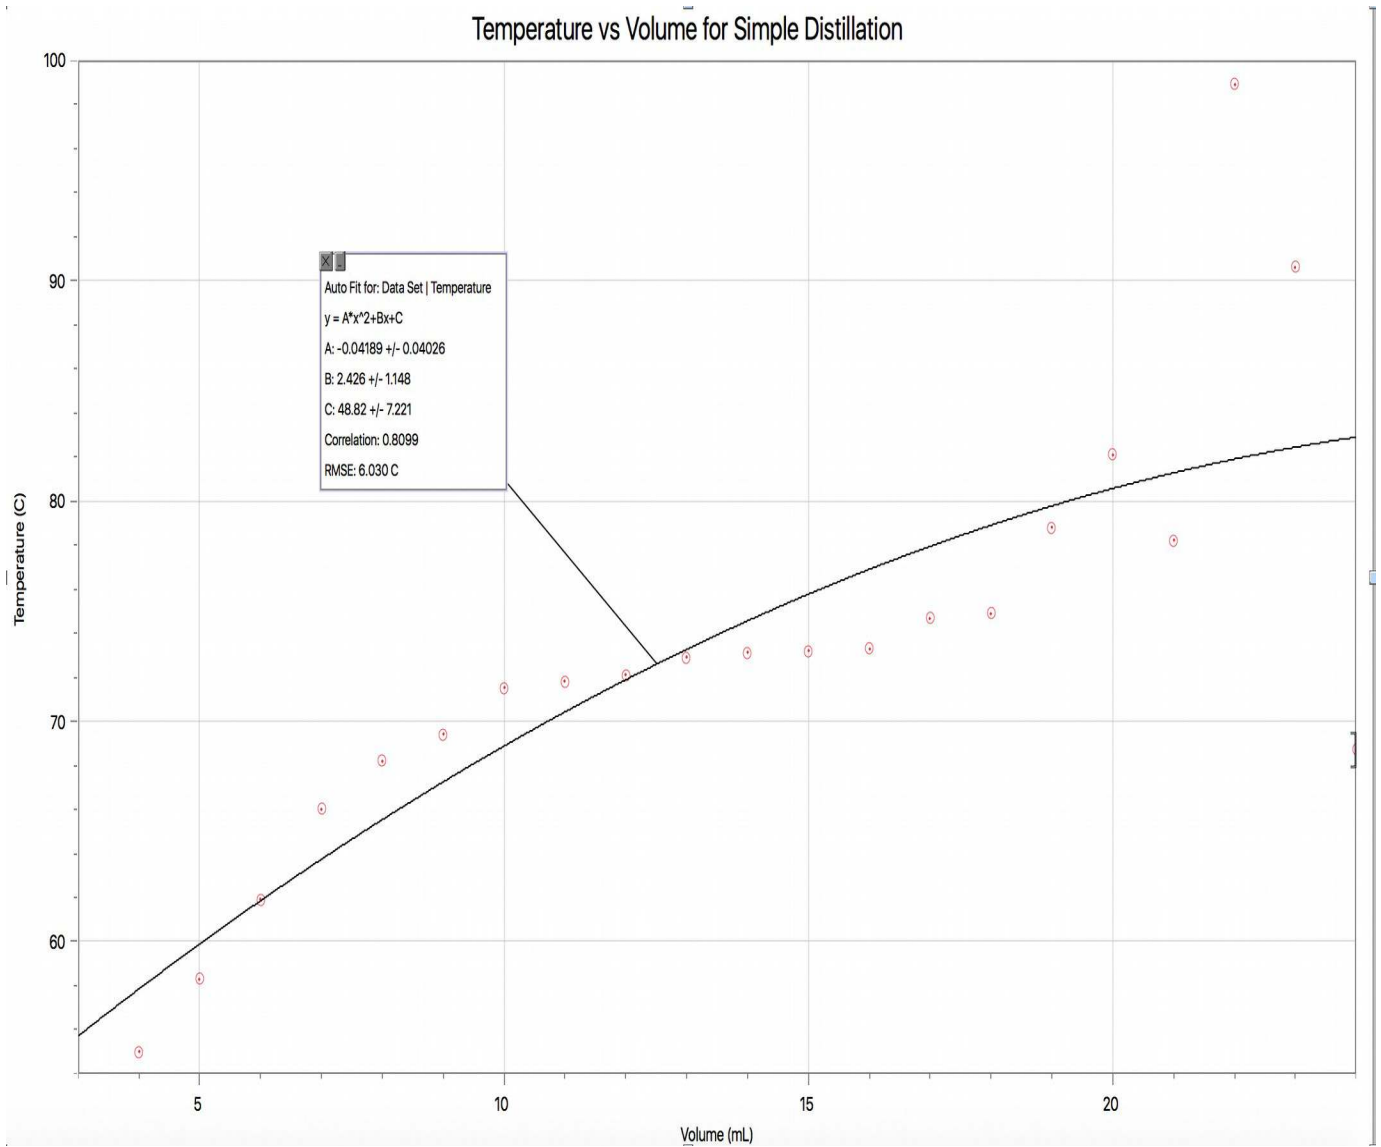
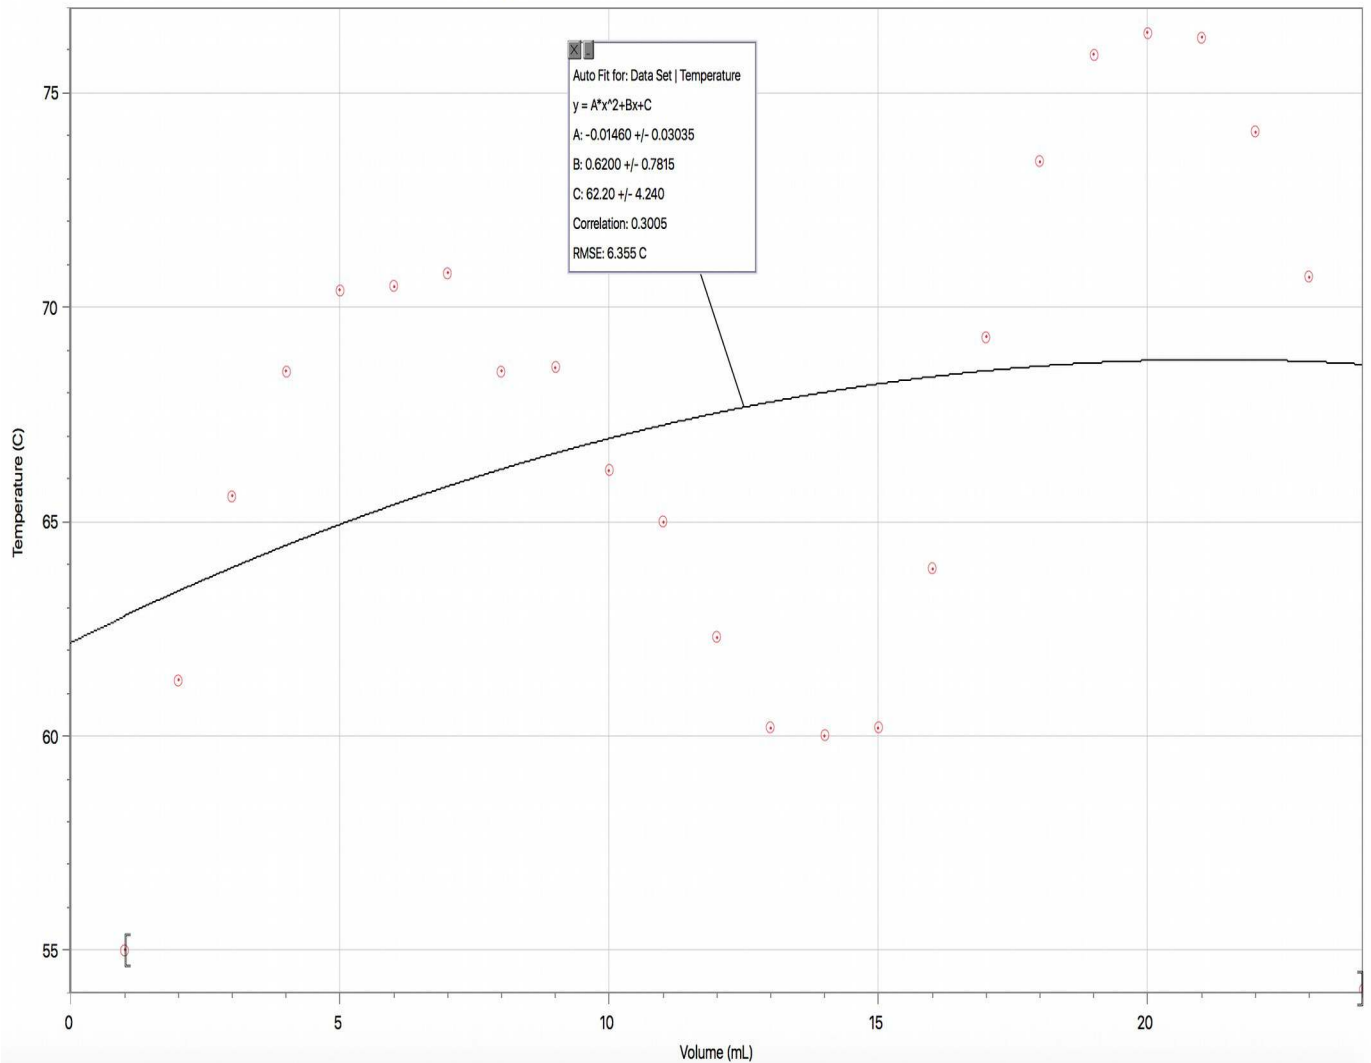
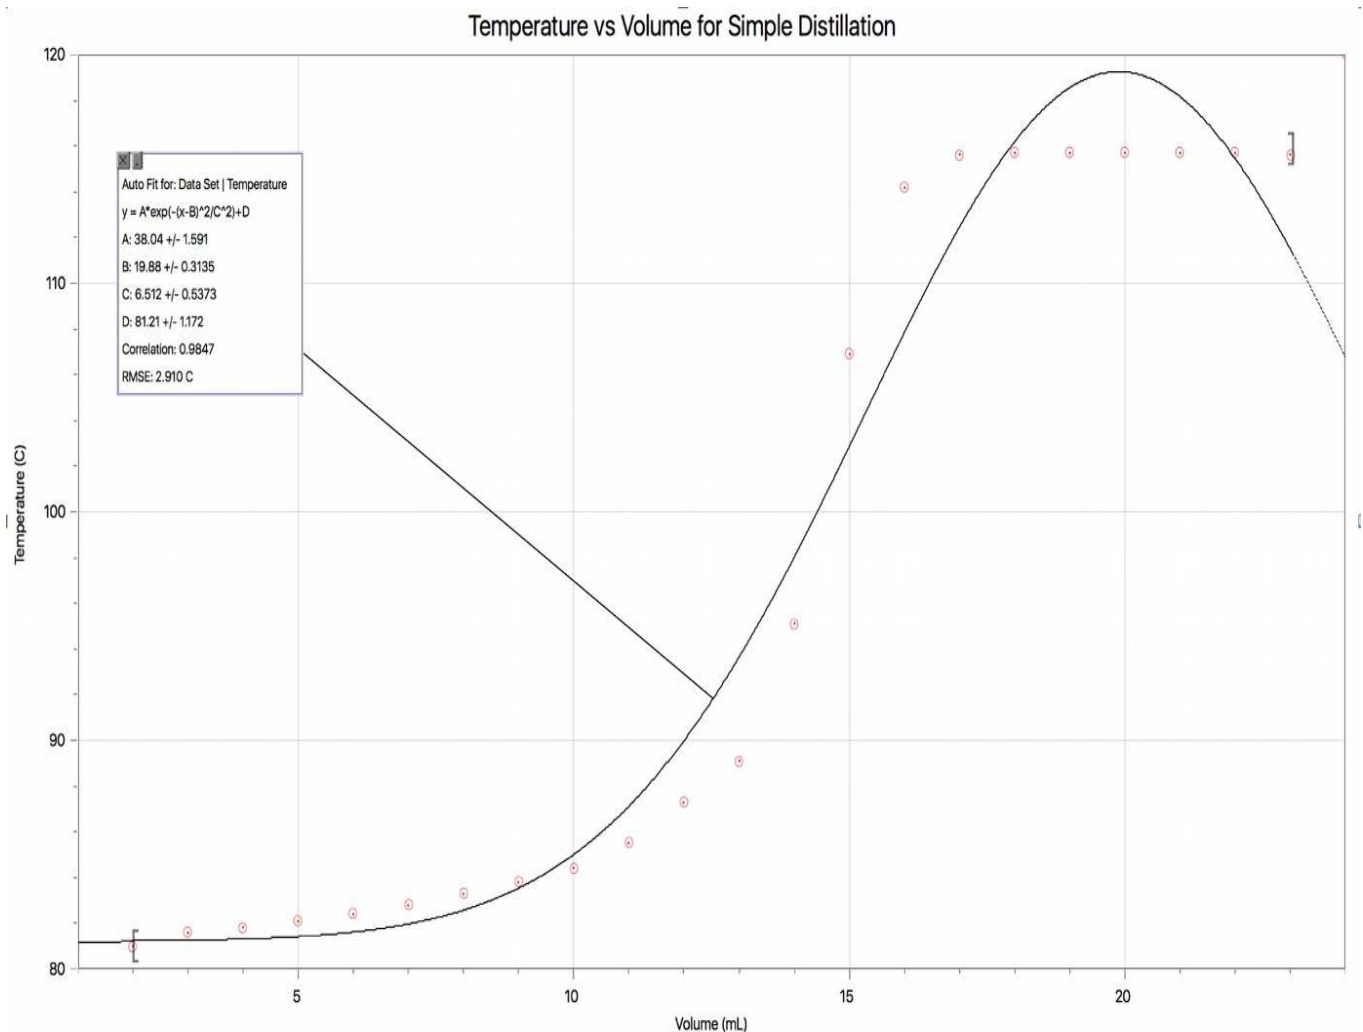

Figure 1 – Temperature (°C) vs Volume (mL) collected in receiving flask in simple distillation with quadratic curve of best fit
Figure 2 – Temperature (°C) vs Volume (mL) collected in receiving flask in fractional distillation with quadratic curve of best fit
Figure 3 – Temperature (°C) vs Volume (mL) collected in receiving flask in fractional distillation with Gaussian curve of best fit
\*Figure 3 data was borrowed from
- To begin the discussion, there is obviously significant error in the data collected in the fractional distillation. The quadratic curve in the simple distillation (as seen in figure 1) shows decent results, but figure 2 makes it clear that the fractional distillation did not go as expected.
- Figure 3 is data borrowed by another group in the lab who achieved better results. This will provide a comparison and a Gaussian curve was used as the curve of best fit.
- In the simple distillation, figure 1, there was initially a calibration error with the thermometer when the distillation began that occurred during the 1 mL to 3 mL range. Due to this, temperature values could not be recorded for these volumes,
- In the fractional distillation, figure 2, the points were very scattered, not really following the expected trend. They seemed to form two peaks where temperature reaches a maximum with a trough in between where temperature reaches a minimum. It is likely there is error with the heating device as it would be the best explanation for the temperature drop. The heating device must have turned off around the peak temperature then turned back on at the lowest temperature.
- The quadratic curve of best fit makes it look very similar to the simple distillation except it has less of a steep slope. It is clearer where the distillation finishes as the end is flattened out. However, it still looks very similar to figure 1, demonstrating that the collected for figure 2 did not go as expected. However, the difference between figure 2 and figure 3 (the borrowed data) is very evident as figure 3 does not follow a near linear fashion as seen in both figure 1 and 2.
- This leads to a very effective separation and the distilling flask will only contain 1-butanol (therefore half the volume of the original solution should be left in the graduated cylinder only containing 2-propanol). Once the temperature spikes up and hits a critical temperature (as seen in the centre region of figure 3), the remaining 1-butanol is distilled into the graduated cylinder as well.
- Overall, the fractional distillation apparatus is much more effective at separating the components than the simple distillation apparatus. There was significant error in the collected data, mainly in the fractional distillation of figure 2. However, the data for figure 3 that was borrowed provided data with minimal error in order to analyze and compare in this discussion.
- Figure 3 data was borrowed by
- Figure 1 and 2 were made using Logger pro application.